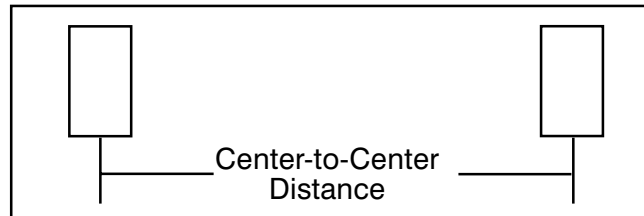

FIG. 47
FRONT WHEEL TOE-IN (Fig. 47 & 48)
1. Measure center-to-center distance (at axle height) at front and rear of steering tires. Front measurement must be 1/8 to 1/4 inch less than rear measurement. (FIG. 47)